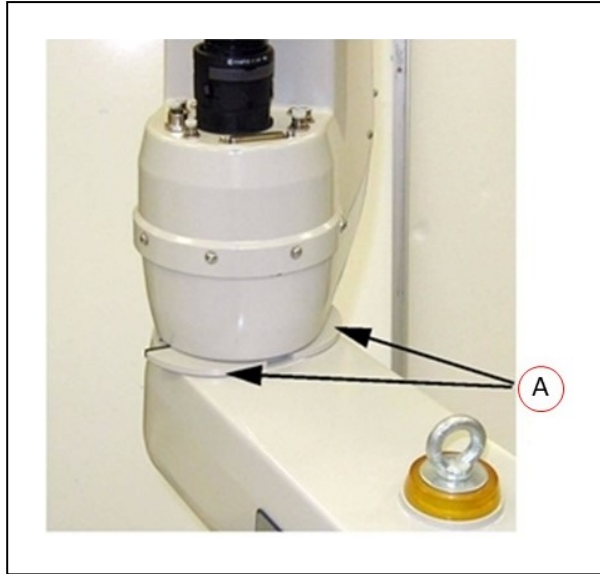
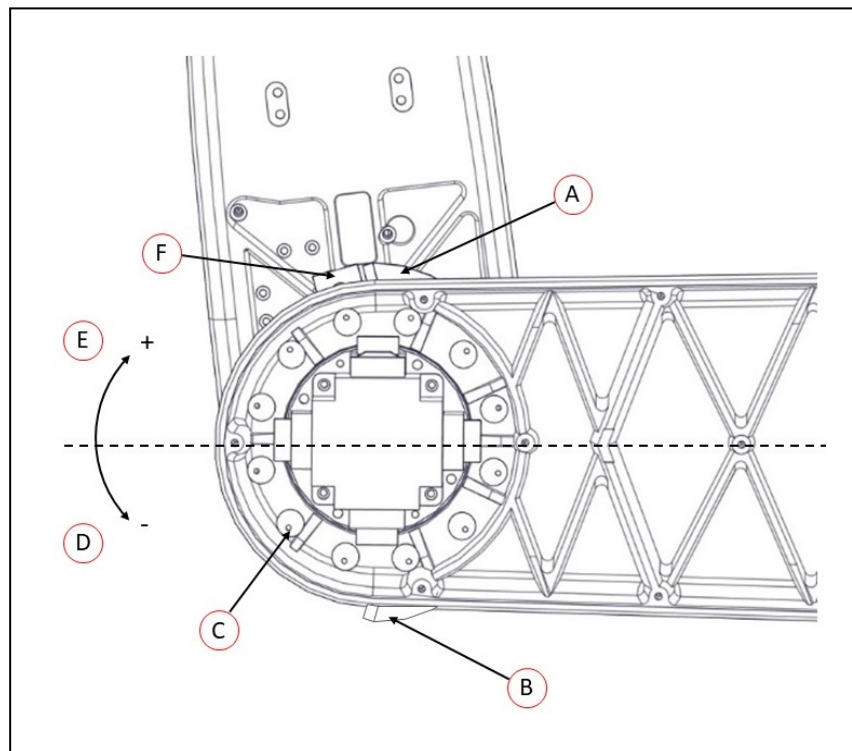

Figure 5-15. Joint 2 Adjustable Hardstop Plates installed in Position 2 (A)
Figure 5-16. Screw Locations for Joint 2 Adjustable Hardstops (as seen from below)
1. Slide the two adjustable hardstop plates into the space between inner and outer links (see Figure 5-15. Looking up at the inner link from underneath, align the holes in the plates with the holes in the inner link (see Figure 5-16.